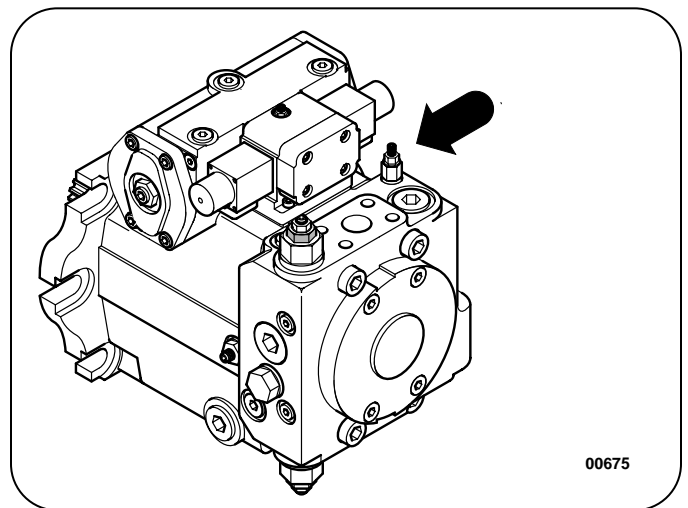

Figure 7: Wheel Drive PCO Relief
5. Before the directional reliefs can be set the wheel drive PCO relief must be cancelled. Locate the PCO relief on the wheel drive pump. See Figure 7.